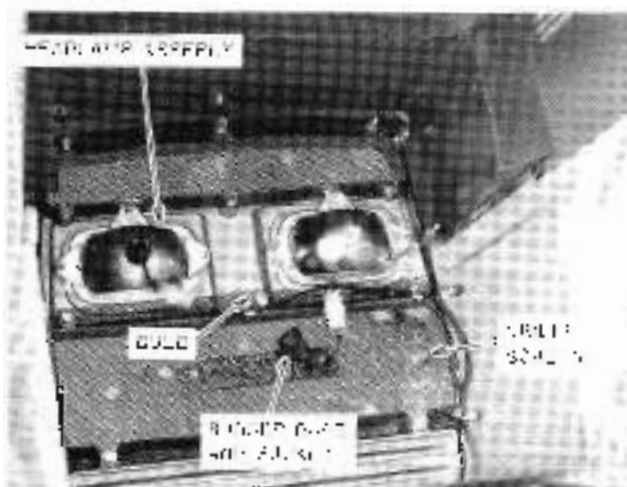

Figure 62 - Headlamp Assembly
3. Get rubber band back of the lamp wires. (Figure 62)